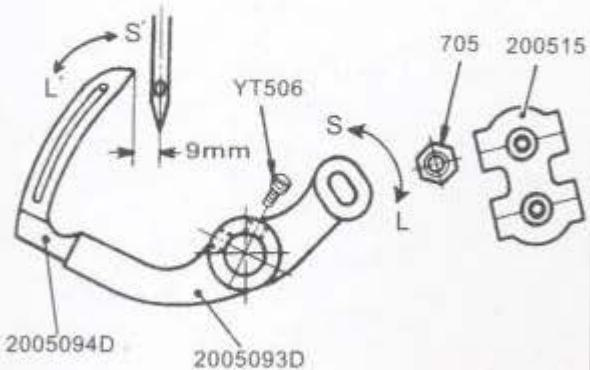

Fig.3
Turn pulley clockwise, check the distance between needle center and lower looper point in the lowest position of needle bar just before moving upwards, the distance should be 9mm as shown in (Fig. 3). If it is larger or smaller than 9mm, carry out necessary adjustments after loosening nut (705) which holds looper lever (2005093D) and ball joint (200515) in position. Setting ball joints in the direction S will cause lower looper get nearer to needle (S'), while setting them in the direction L will make lower looper go away from needle (L'). Tighten nut (705) after the adjustment.